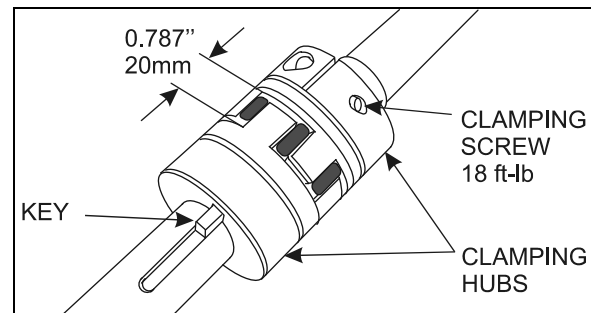

FIGURE 20: JAW COUPLING
8. Reconnect the clamping hubs with the spider. Leave a gap of 20mm (0.787inch) between each clamping hubs as shown on FIGURE 20. Use the motor hexagonal output shaft to align the keyways.